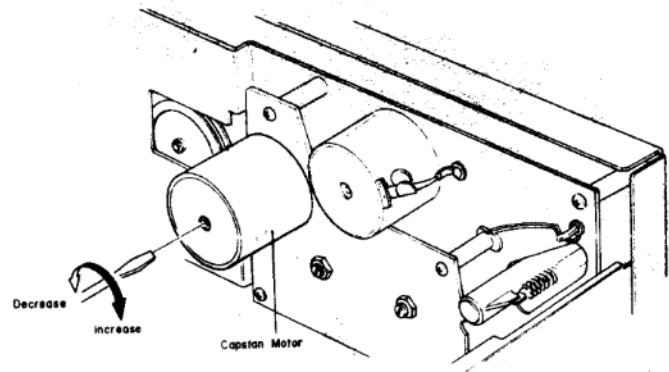

Fig. 5.3
- Referring to Fig. 5.3, adjust the Tape Speed Adjustment Volume (VR501) incorporated in the Capstan Motor to obtain 3,000 Hz on the Frequency Counter.